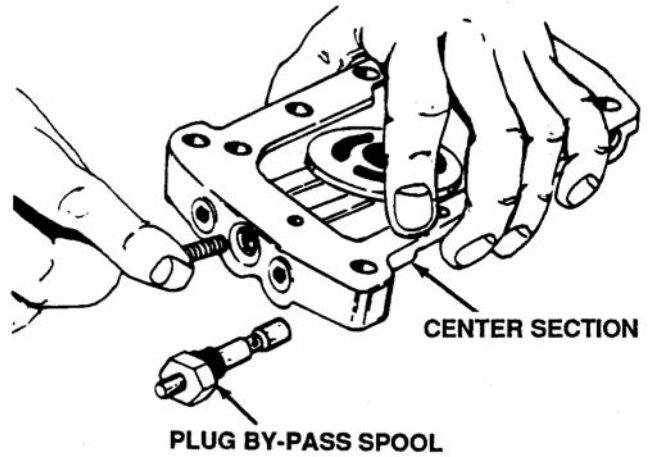

Figure 6-35. Removal of Spring
- b. Remove spring from center section. See Figure 6-35.